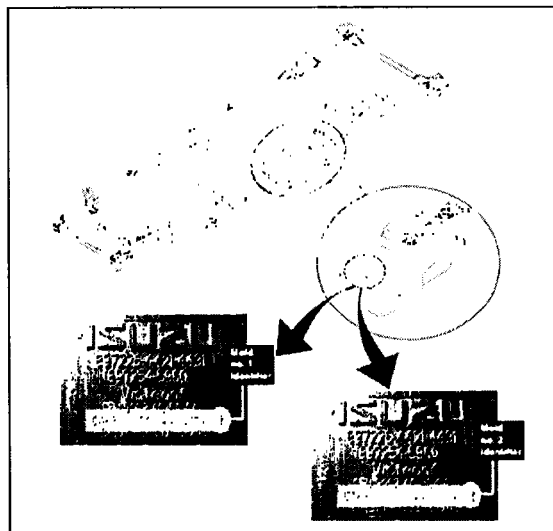

figure 10
1. 2002 Rodeos and Axioms were built with one of two possible fuel tank molds. Verify the fuel tank casting number (Mold 1 or Mold 2). Select the appropriate seal for the fuel tank mold of each vehicle in *figure 10* (see Parts Information for selection).